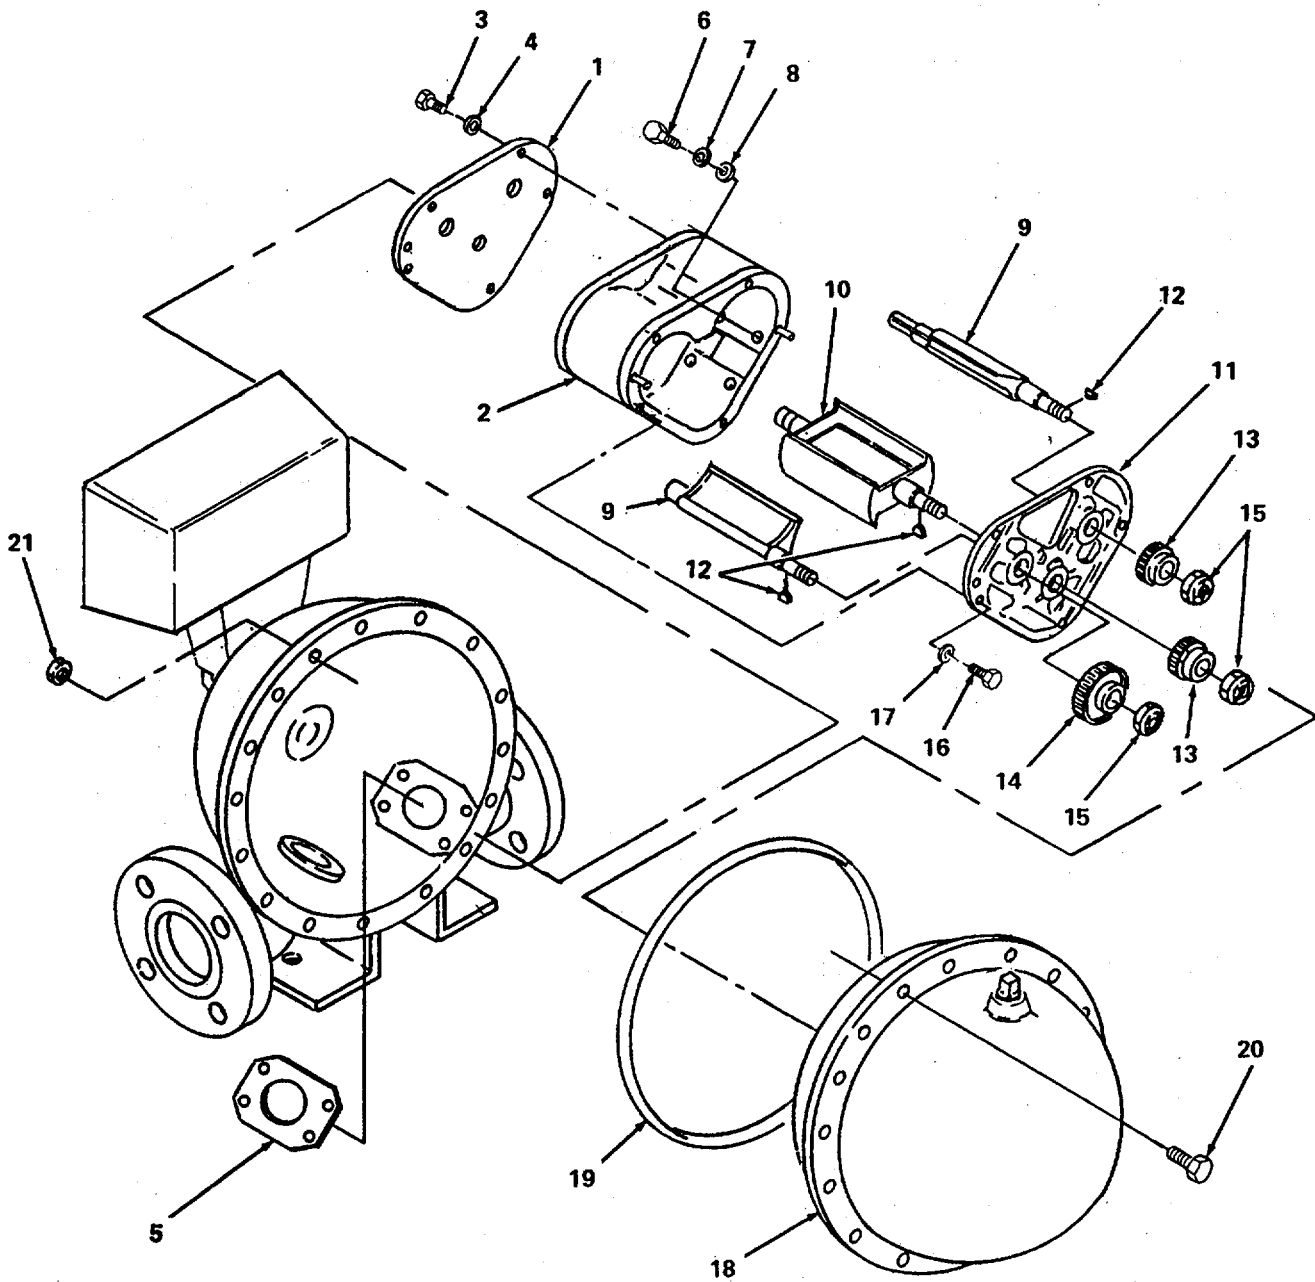

Figure 6-44. Flow Meter Metering Chamber Assembly.
(1) Assemble metering chamber components.
- (a) Position rear bearing plate (1, figure 6-44) on housing (2) and install eight screws (3) and eight lockwashers (4).
- (b) With steel casing gasket (5) in place, slide housing (2) into flow meter assembly and install four screws (6), four lockwashers (7) and four flat washers (8).